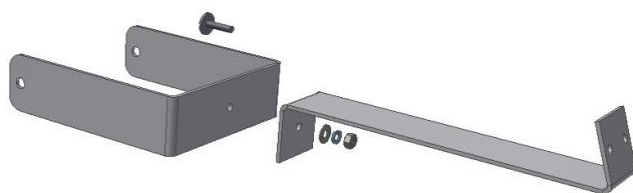
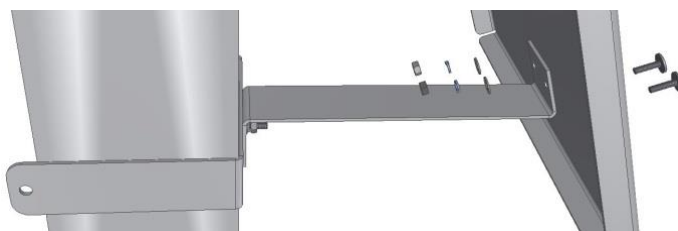

Figure 4a
Figure 4b
4. Assemble the gusset clamp to the gusset (**Figure 4a**), then place the assembly around the post (**Figure 4b**), and bolt it to the mat holder base using the following hardware: